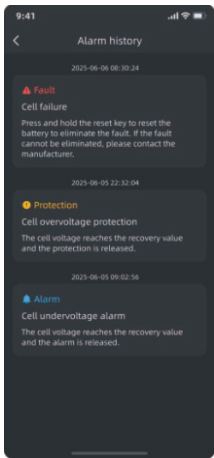

Figure 2
2)Figure 2: Click on "**Alarm Information - Alarm history**" to view the historical alarms of the battery pack.